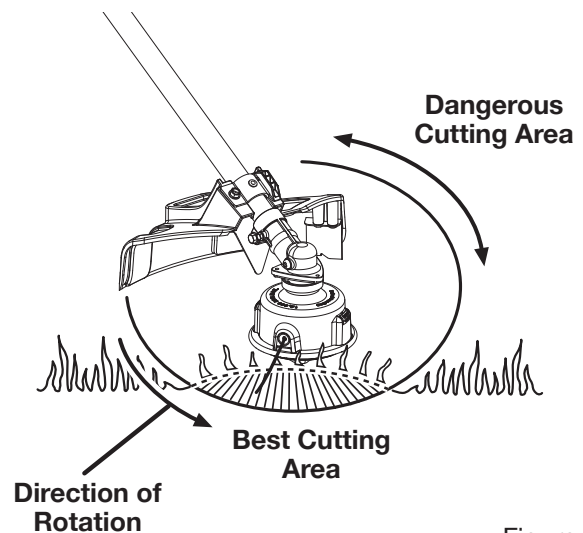

Figure 9
3. The trimmer cuts when passing the unit from left to right. This will avoid throwing debris at the operator. Avoid cutting in the dangerous area shown in figure 9.